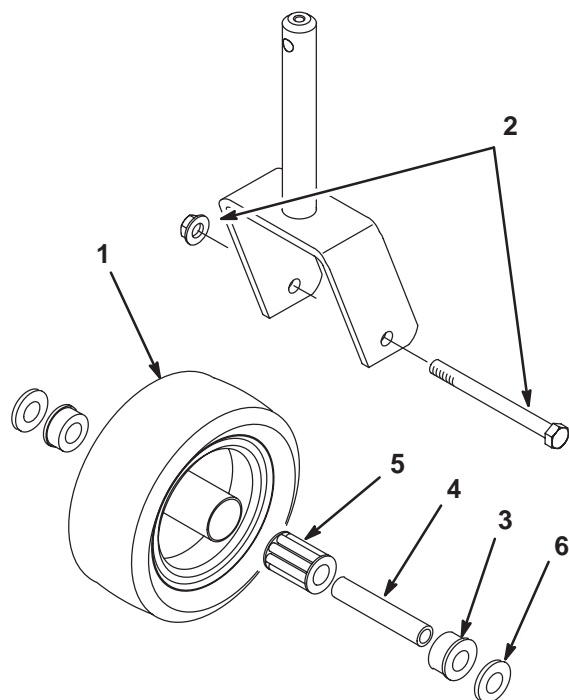

Figure 27
1. Remove the locknut from the capscrew holding the castor wheel assembly between the castor fork (Fig. 27). Grasp the castor wheel and slide the capscrew out of the fork.
2. Pull the spanner bushing out of the wheel hub (Fig. 27).
5. To assemble the castor wheel, push the bushing into the wheel hub. Slide the bearing into the wheel hub. Push the other bushing into the open end of the wheel hub to captivate the bearing inside the wheel hub (Fig. 27).